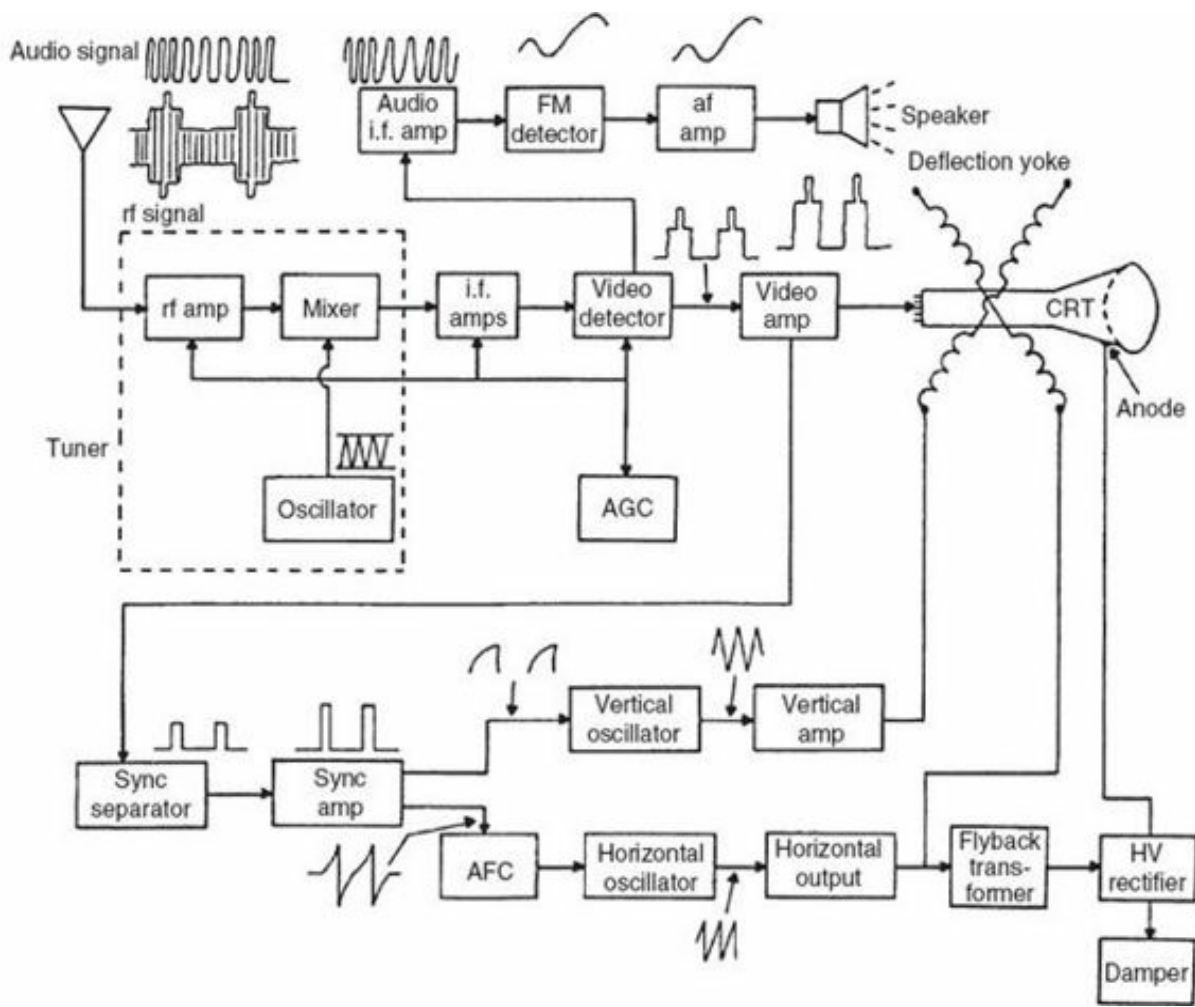

FIGURE 6.18 Block diagram of a black-and-white receiver.
**Figure 6.18** shows a block diagram of a black-and-white television receiver. The signal from the antenna is amplified in the rf stage, mixed with a continuous wave of a predetermined frequency from the oscillator, and sent to the intermediate-frequency stages at 45.75 megahertz (MHz) where it is amplified. The video detector then demodulates the signal and sends the audio part of the signal to the audio stages and the video portion of the signal to the video stages. The sound detected from the video signal is FM. The audio signal is amplified in the audio i.f. amp, demodulated in the FM detector, again amplified in the audio or af amp, and reproduced as sound by the speaker. Meanwhile, the video signal is amplified by the video amplifier and sent to the grid of the picture tube.